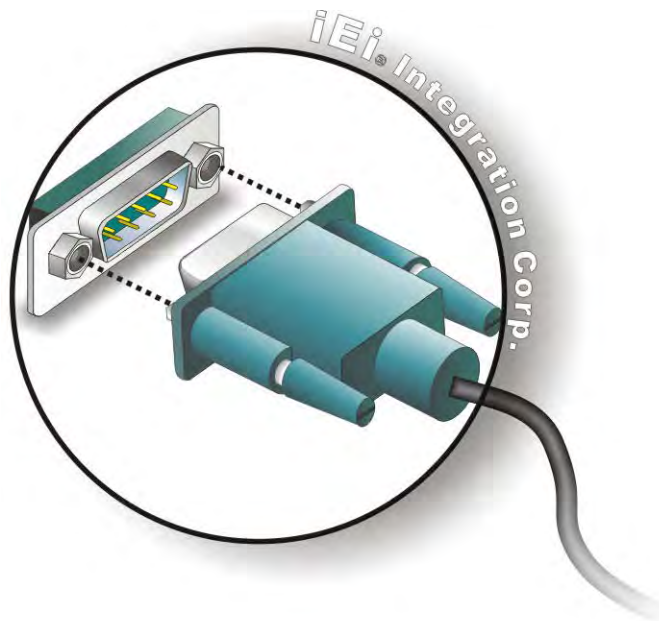

Figure 4-7: Serial Device Connector
Step 2: Insert the serial connector. Insert the DB-9 connector of a serial device into the DB-9 connector on the external peripheral interface. See **Figure 4-7**.